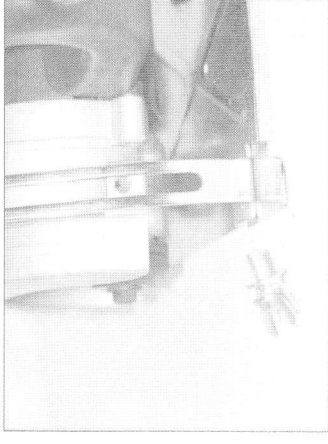

Figure-1
1. Remove the wing bolt and washer for adjusting the cutting depth. (See Figure-1)
2. Raise cutting depth so there is room between the body and the base plate. (See Figure-1)